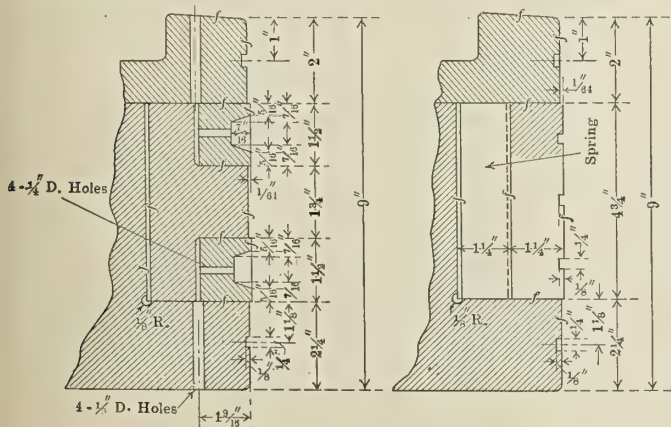

Fig. 1.—Piston Ring for High and Intermediate Pressure Cylinders
Q. (997).—Will you kindly give me the following information regarding the machining of piston rings of a main engine: Size of casting from which rings must be made. How to determine the first rough machining? Amount to be cut off; kind of cut and kind of cod piece to be used? Machining to finished dimension after cut? Clearance necessary after ring is set in the cylinder bore? Suggest the best way of cutting water grooves, and if these are absolutely necessary? If springs on the back of these, what pressure would you allow? Would steam pressure be better? The conditions I am dealing with are shown in Figs. 1 and 2.
A. (997).—Unfortunately the sketches do not show the diameter of the cylinders or pistons. We may, however, assume that these are 28 inches by 45 inches by 72 inches. Your sections would indicate that a Cameron packing ring
The construction of the rings for the high and intermediate pressure cylinders (Fig. 1) is unusual. The bearing surface of each of these two rings upon the cylinder walls is rather small, since the effective depth is only $\frac{5}{8}$ inch. Furthermore, it is probable that the $\frac{1}{8}$ -inch and $\frac{1}{4}$ -inch diameter holes which admit steam to the